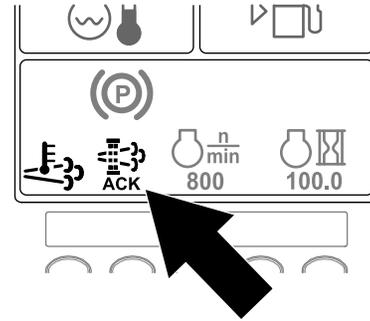

Figure 61
- The InfoCenter displays the home screen and the regeneration acknowledge icon (Figure 61) appears in the lower right corner of the screen as the regeneration processes.